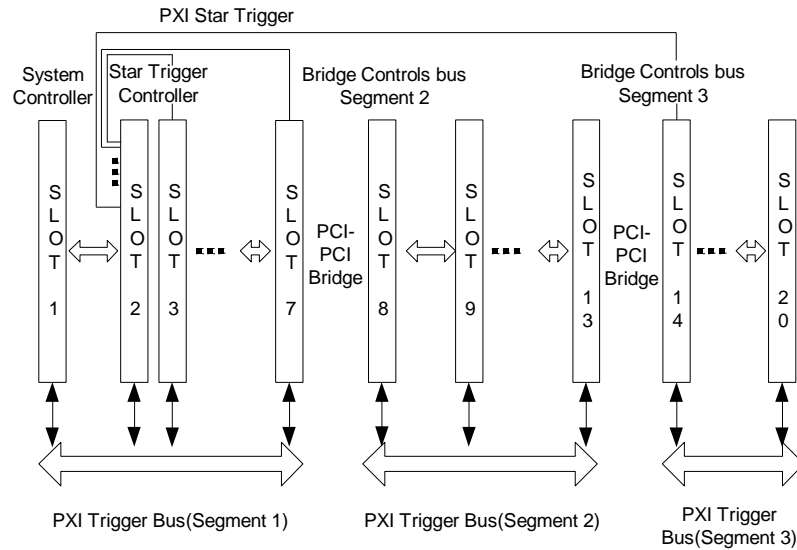

Figure 2-12: PXI Trigger Architecture
Slot 2 is the Star Trigger (ST) Controller slot (2nd from the left). This slot has a dedicated trigger line going to slots 3 through 15. The Star Trigger is used to synchronize between 14 instruments and it utilizes back plane traces that are of equal length, providing for a skew of less than 1nSec between slots. If you do not need a Star Trigger Controller, any PXI or cPCI instrument can be used in this slot. See Figure 2-12 in this chapter for more information about the available trigger architectures.
The PXI trigger bus provides connectivity only within a single bus segment and does not allow physical connection to an adjacent bus segment. This maintains the high performance characteristics of the trigger bus and allows the GX7300 to partition instruments into logical groups as show in Figure 2-12. However, logical connections of the trigger bus are allowed. The GX7300 can be configured programmatically enable any of the trigger lines between the segments and set direction.